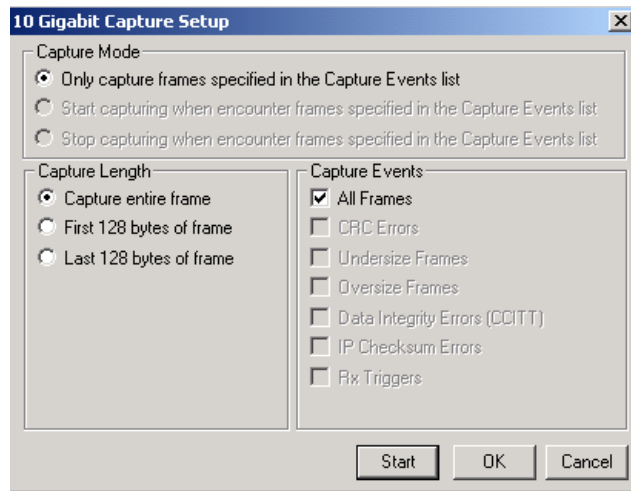

Figure 5-16. Capture Setup window
- 3 Select the desired **Capture Events** and other parameters. For this example, **All Frames** is selected. (Refer to Figure 5-16 on page 150.)